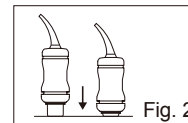

Fig. 2
- b) To activate the capsule, push the plunger until it is flush with the main body (Fig. 2).